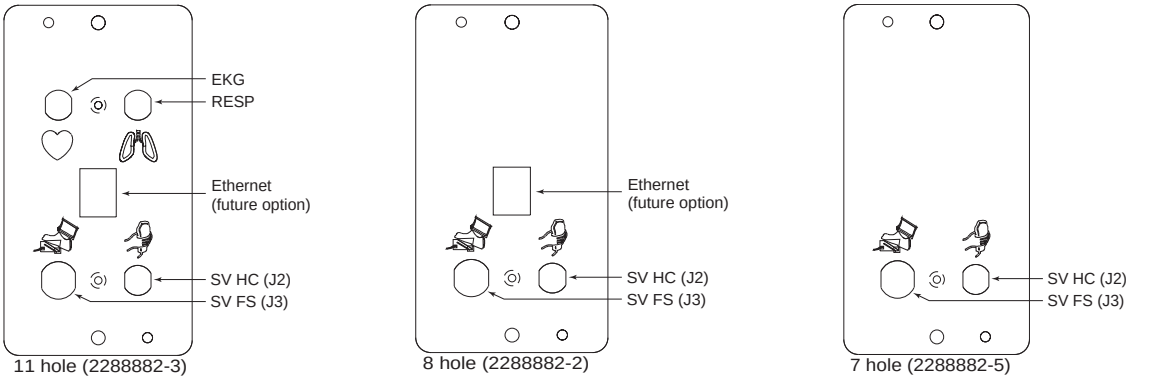

Figure 2-4 Gantry Base Faceplates
- 2.) Install the appropriate faceplate (see Figure 2-4) at indicated location per Table 2-2 using the four nuts removed with the original faceplates (two per faceplate).